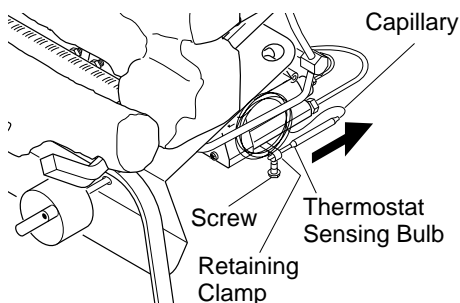

Figure 32 - Removing Thermostat Sensing Bulb
2. With 5/16" hex driver or socket, loosen the thermostat screw. Carefully slide the thermostat sensing bulb out of the retaining clamp (see Figure 32).